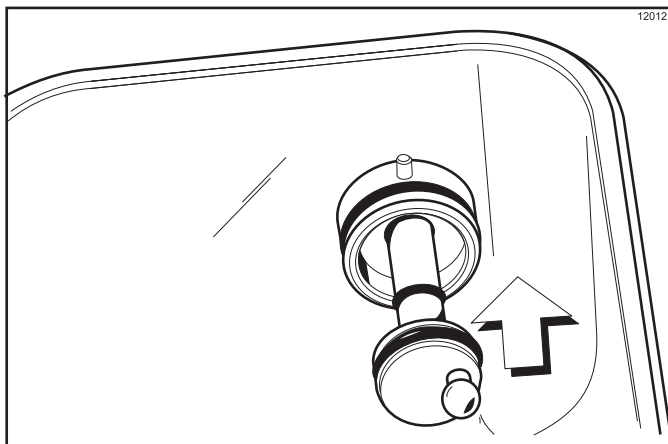

Figure 6-35
- Install the hex end of the driveshaft into the drive hub at the rear wall of the mix hopper. (See Figure 6-35.)